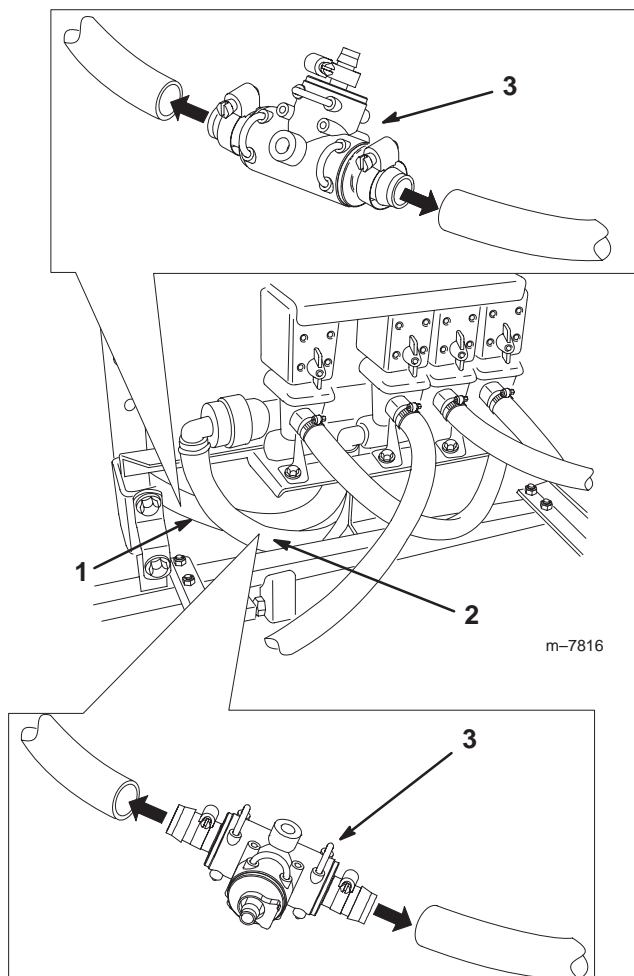

Figure 11
9. Cut the by-pass hose half way between the boom valves and the tank (Fig. 11).
10. Using liquid soap on the barbs, insert an S53 tee fitting assembly into the break and secure it using 2 large, hose clamps (Fig. 11).
11. Cut the agitation supply hose in half (Fig. 11).
12. Using liquid soap on the barbs, insert an S53 tee fitting assembly into the break and secure it using 2 large, hose clamps (Fig. 11).